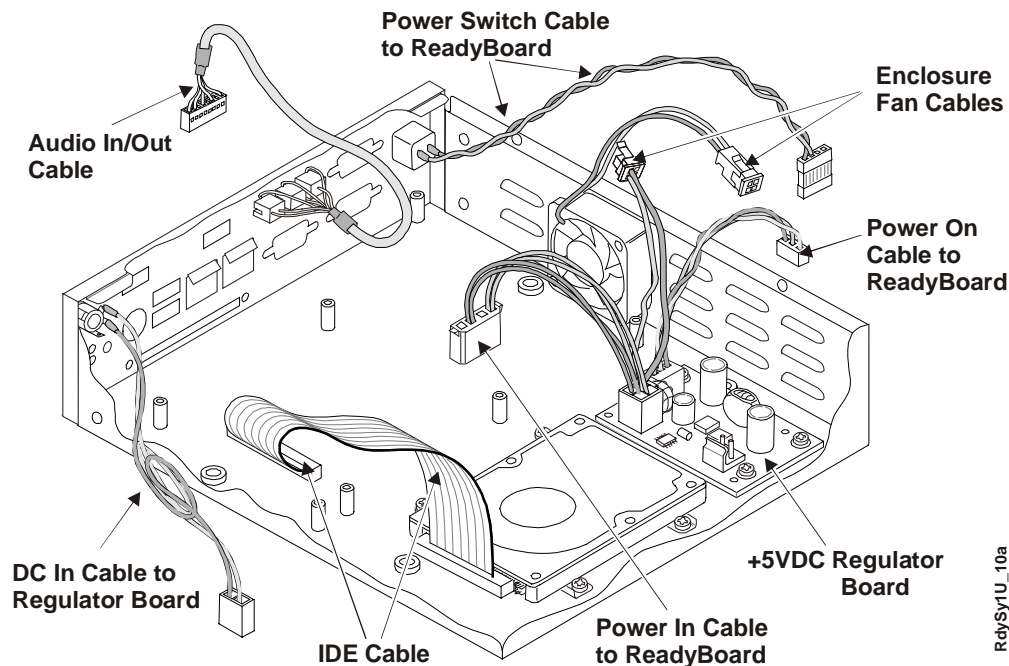

Figure 2-6. Internal Cables Shown Separated
6. Move the internal cables out of the way to allow installation of the ReadyBoard. See Figure 2-6.